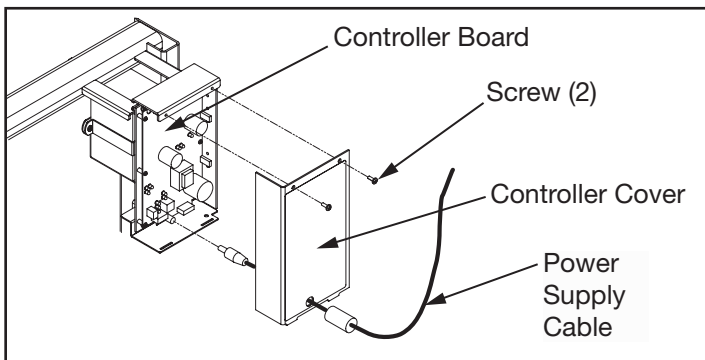

Figure 5
- A. Using a Phillips Screwdriver, remove the two screws securing the controller cover. See Figure 5.